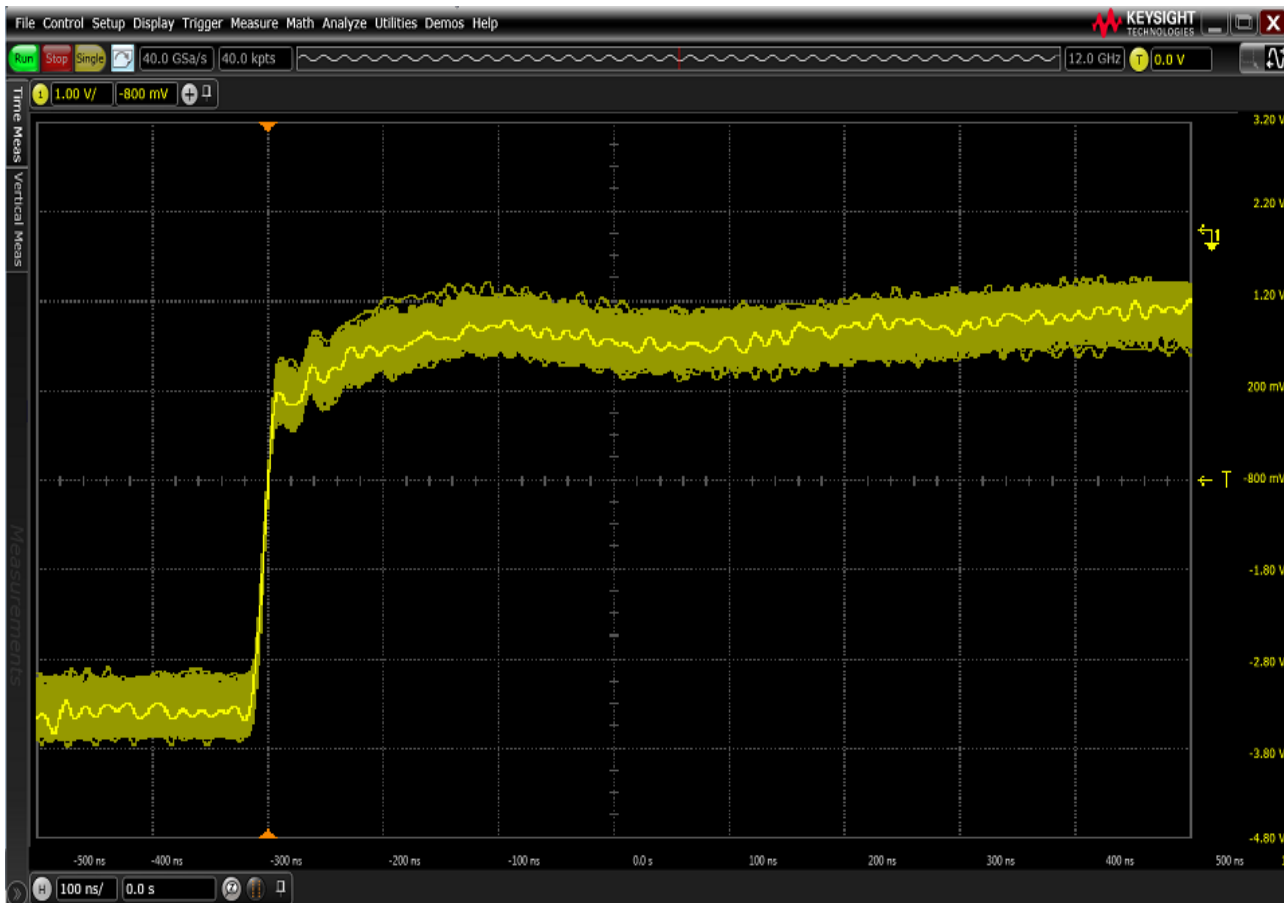

Figure 51 Example of a Bad Connection Waveform
- 5 If you see a waveform similar to that of Figure 51 below, then you have a bad connection and should check all of your probe connections.